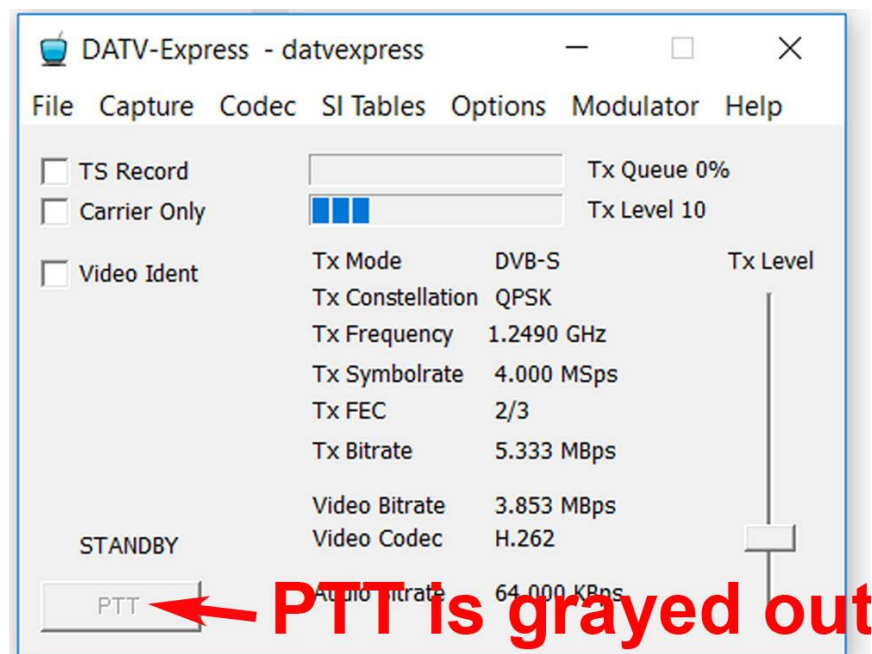

Figure 16 – The MAIN window confirms that the software is running in the DEMO Mode with PTT button “grayed out”
- Now, the MAIN user display window on the Windows PC should appear in a DEMO mode as in photo in **Figure 16**.
If you see **Figure 16** OK, then you have completed these steps successfully. Proceed to Section 3.4.1